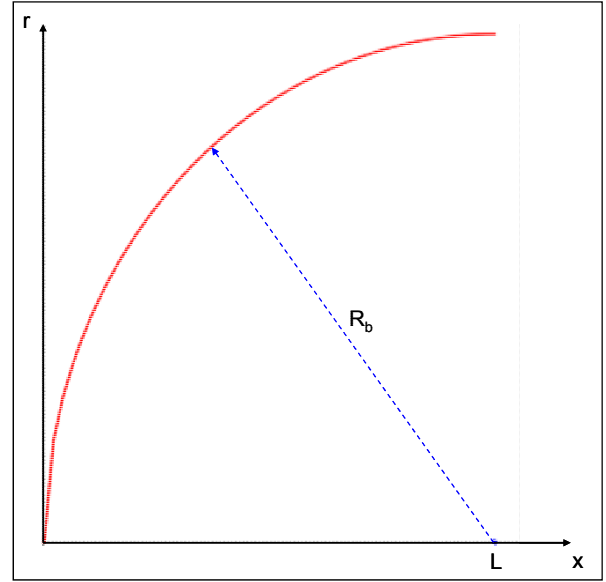

Figure A-1. Hemispherical Nose Geometry
The hemispherical nose shape is characterized by being a special case of the tangent ogive, where the bluntness radius (R_b) is equal to the nose length (L). This geometry can be seen in Figure A-1. The equation of the nose shape is simply: